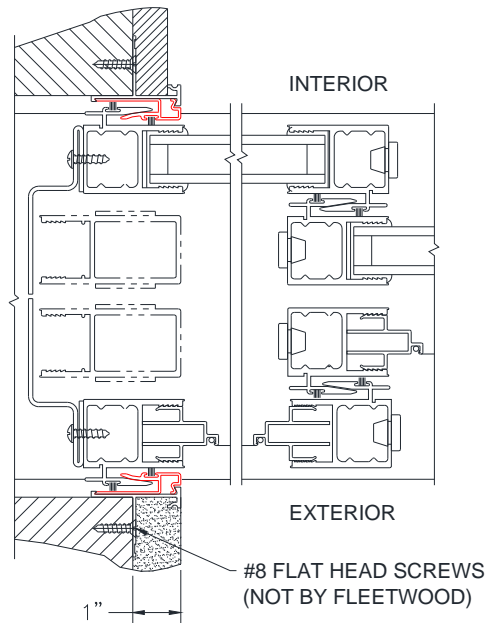

Figure 24:
3. Attach pocket interlocker(s) with #8 flat head screws, not by Fleetwood. Install screws 6" from top and bottom with additional screws on 18" centers (Figure 24).